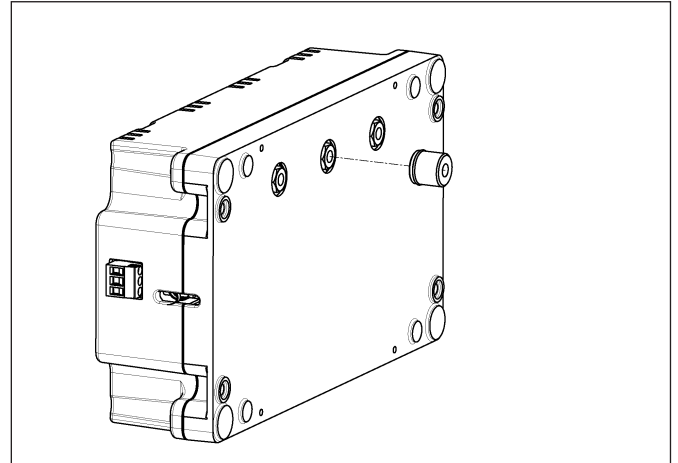

Figure 2. Bus bar extension bushing
3. Before mounting the SPD, first determine the bus bar configuration. If the panelboard uses an offset B-Phase bus bar configuration, no action is required. If the panelboard uses a coplanar bus bar configuration, remove the bus bar extension bushing from the back of the SPD and discard. See Figure 2.